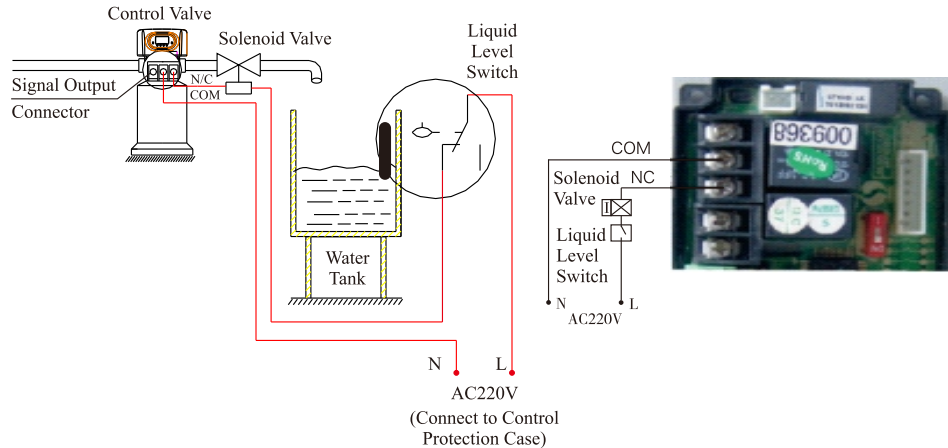

Figure 3-2 Wiring of Outlet Solenoid Valve
**Instruction:** If system strictly requires no hard water flowing from outlet in regeneration cycle (Mainly for no hard water flows out when valve is switching or valve in backwash or brine drawing positions), a solenoid valve could be installed on outlet, the wiring refers to Figure 3-2.